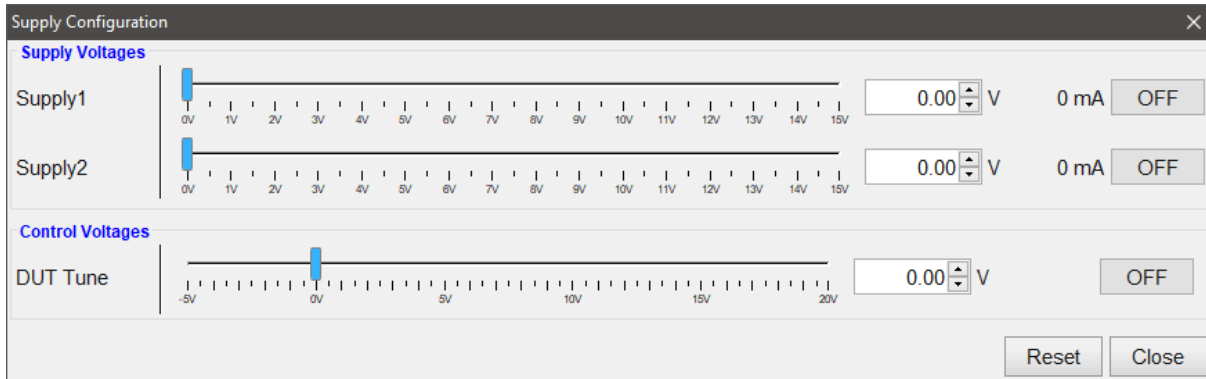

Figure 20: Supply Configuration dialog
**G) Configure Supply:** If available with the currently connected device, this button will open the supply dialog in which the output voltage on the DC SUPPLY ports on the back panel and the DUT TUNE port on the front panel can be configured (as shown in Figure 20). The supplies can be separately set, enabled/disabled, and the current is measured continuously. The DUT tune port can be configured to output a constant voltage. This can be used, for example, as bias voltage for the DUT.